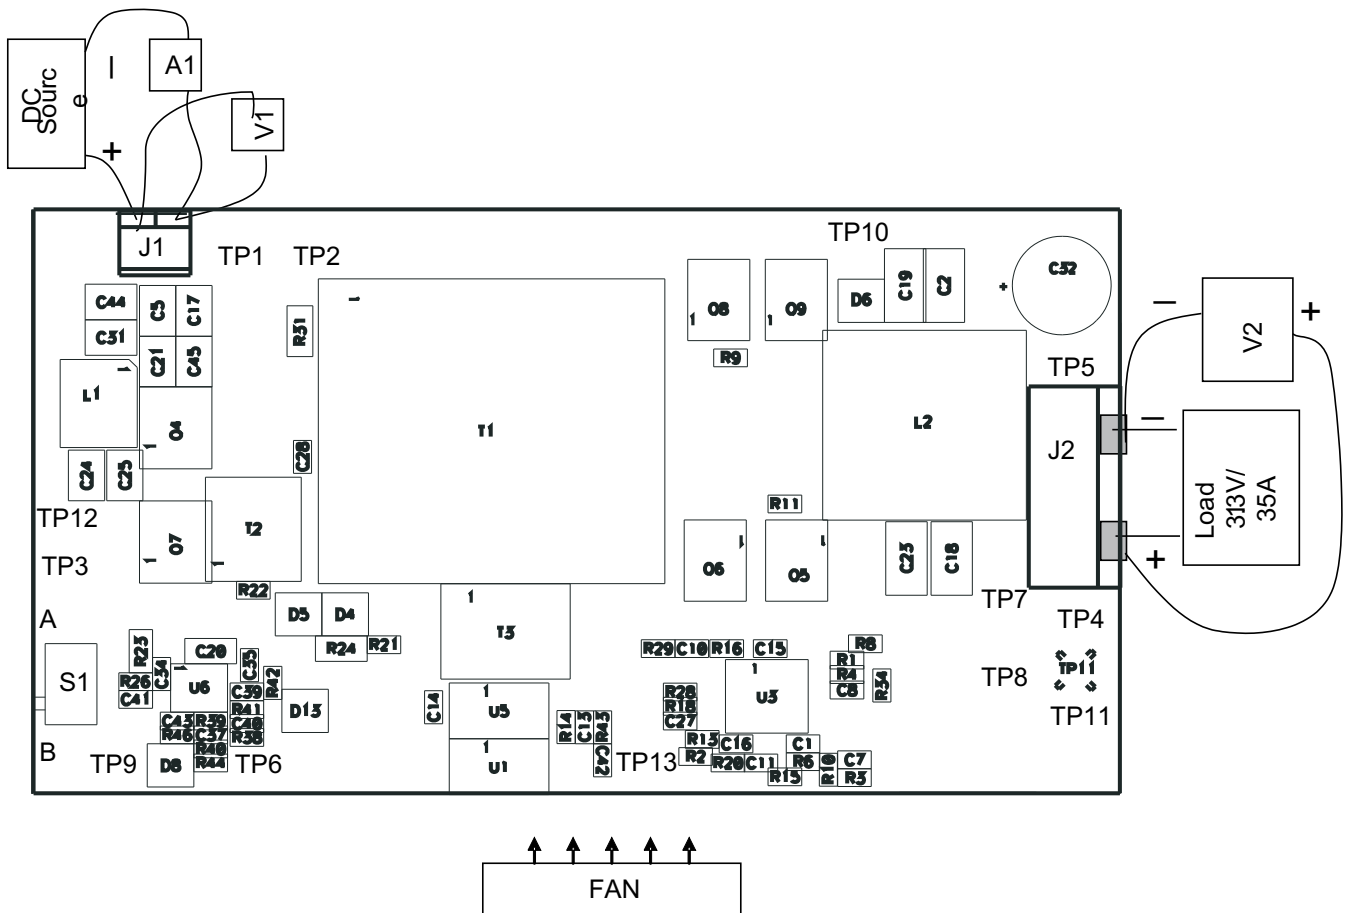

Figure 2. UCC25230EVM-662 Recommended Test Set Up
Set up the EVM based on Figure 2.
1. Connect the ammeter A1 (0 A to 10 A range) between DC Source and J1 as shown in Figure 2.
2. Prior to connecting the DC source, it is advisable to limit the source current to 4 A maximum. Make sure the DC source is initially set to 0 V and connected to J1 and A1 as shown in Figure 2.
3. Connect voltmeter, V1 across the DC source as shown in Figure 2.
4. Connect Load1 to J2 as shown in Figure 2. Set Load1 to constant current mode to sink 0 A_{DC} before the input voltage on J1 is applied.
5. Connect voltmeter, V2 to J2 as shown in Figure 2.